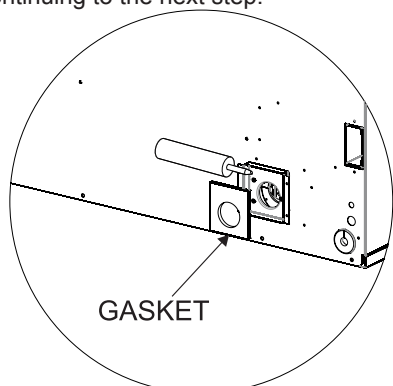

Figure 6
2. Add silicon to the vent adaptor plate to seal screws. Press the gasket into the vent adaptor plate. Ensure that the holes line up and that there is no overlap. **See Figure 6.** Remove excess caulk and wait at least 5 minutes for the silicon to dry before continuing to the next step.